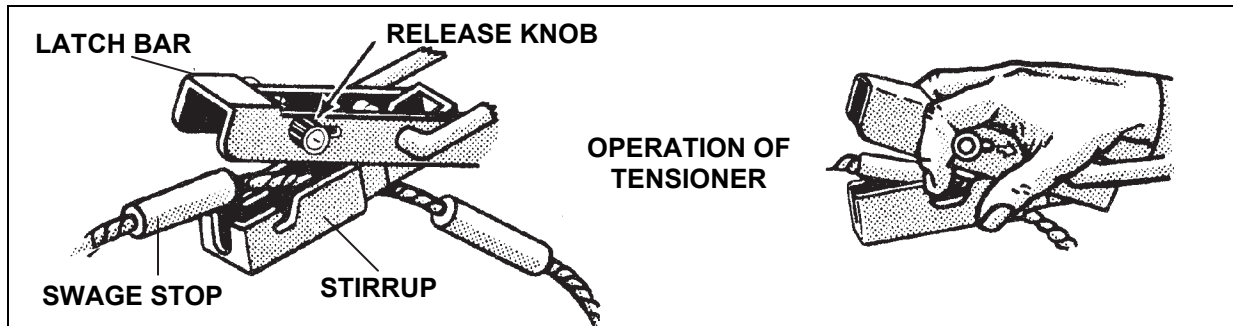

Figure 9-9. Tensioner and Its Operation
- Pull the ends of the sling cable containing the swage stops through the sling tensioners (figure 9-9) until the bridle is tight across the top of the load and slack is out of the cable.